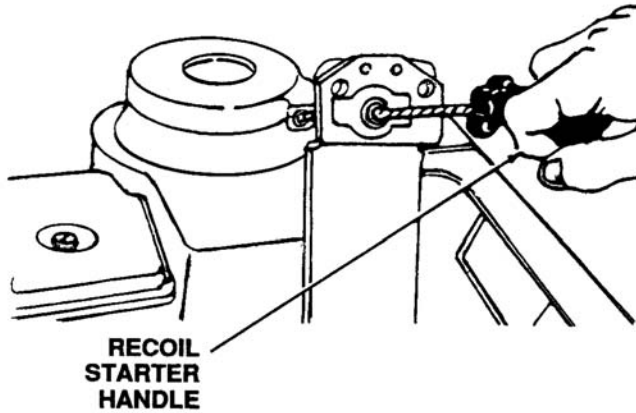

Figure 3-11. Recoil Starter Handle
- e. Grasp the recoil starter handle and unlock it by twisting it 1/4 turn. Pull out sharply and hold it in the out position. See Figure 3-11.